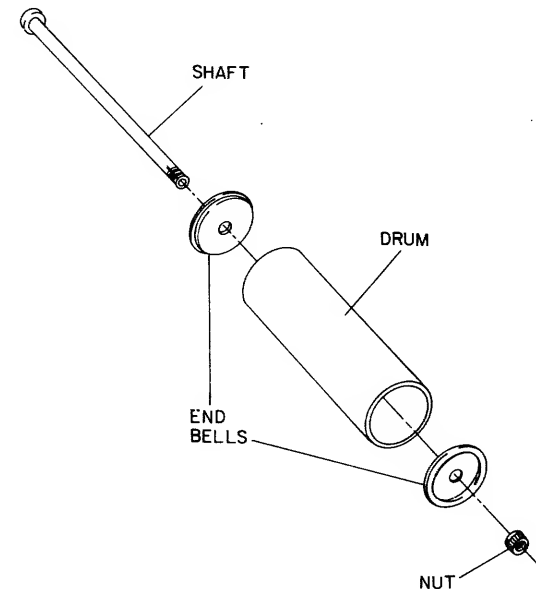

Figure 3-9. Drum Assembly
6. DISASSEMBLE THE DRUM (Figure 3-9).